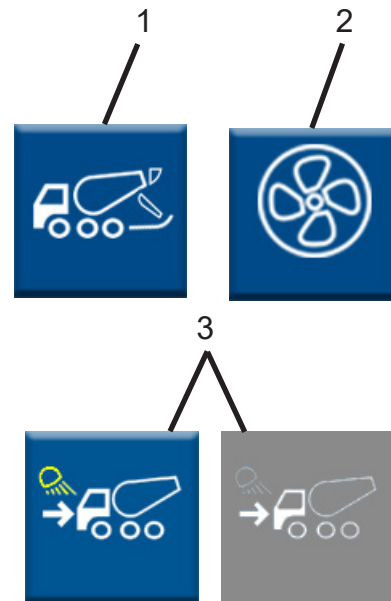

Figure 25
- Remote PTO mode (Figure 25, Item 1). The icon will be grayed out if not turned on.
- Hydraulic Fan (this function is already engaged if the temperature is over 140°F) (Figure 25, Item 2). The icon will be grayed out if not turned on.
- Work Lights ON in Reverse (Figure 25, Item 3). Use work lights on in reverse at a job site only. Using work lights on in reverse while on the roadway is not recommended and may not comply with applicable laws. The icon will be grayed out if not turned on (shown in Figure 25, Item 3).